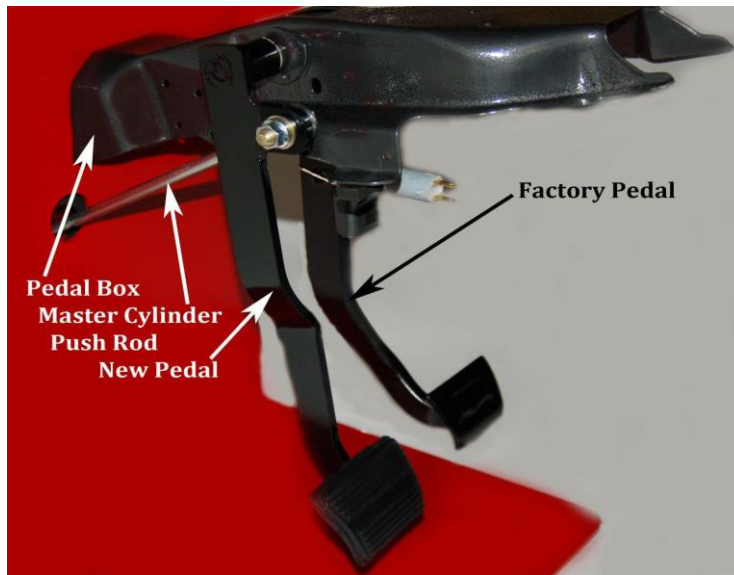

Figure 3
- 3) Disassemble the pedals from the pedal box. Note the order of all parts (spacers, washers, nylon bushings etc.) during disassembly. The pivot rod at the top of the box is secured with a spring clip **and is part of the clutch pedal**. Remove the clip and slide **the pedal /** pivot rod out of the box. Install the supplied McLeod pedal thru the nylon bushing then the brake pedal along with the above mentioned spacers and washers. Reinstall the spring clip. Both pedals should now be securely mounted and travel through their complete arc. Be sure to install the rubber pedal covers at this time. See Fig 3